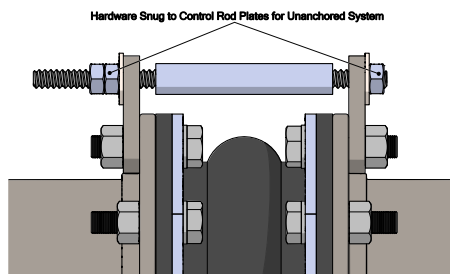

Figure 21: No Control Rod Gap for Unanchored System
- 5.1.1 Follow pressure test instructions set by site engineer. Lock down control rod hardware before pressure test as shown in Figure 21. Pressure test should not exceed 1.5 times operating pressure for 10 minutes. Refer to specified drawing for pressure rating and details.